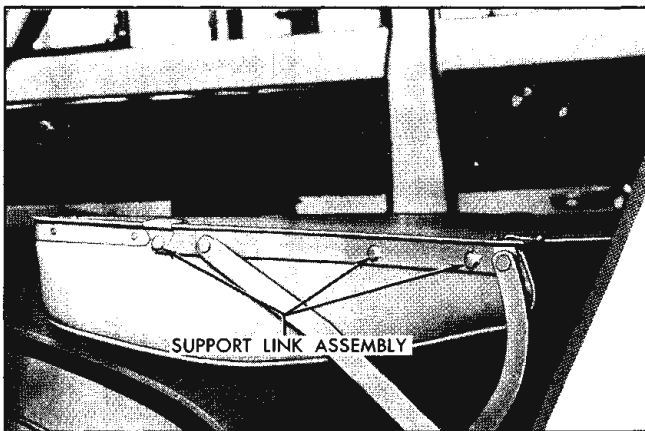

Fig. 18-8 Folding Seat Back Mounting Support Link Assembly
3. At each side of seat, remove screws securing mounting support link assembly to folding seat back assembly (Fig. 18-8).
4. Remove mounting support to folding seat back attaching screws as shown in Fig. 18-8 and remove mounting support link assembly from body.